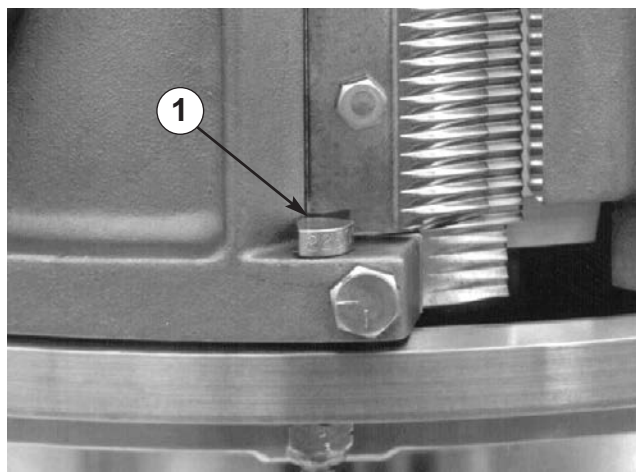

Figure 23 — Cutting head hold down screw. (1) Hold Down Screw
2. **Remove cutting head.** Grasp firmly with both hands and lift straight up. Some cutting heads are held to the support by two hold down screws through opposite shoes (Figure 23). Remove these screws first. Always store the cutting head upside down on a soft surface, never on the dowel pins.
4. **Remove cutting head support** from gear case by unfastening the eight (8) screws. Cutting head support does not need to be removed to inspect dowel pin holes. See “Inspection”, next page.